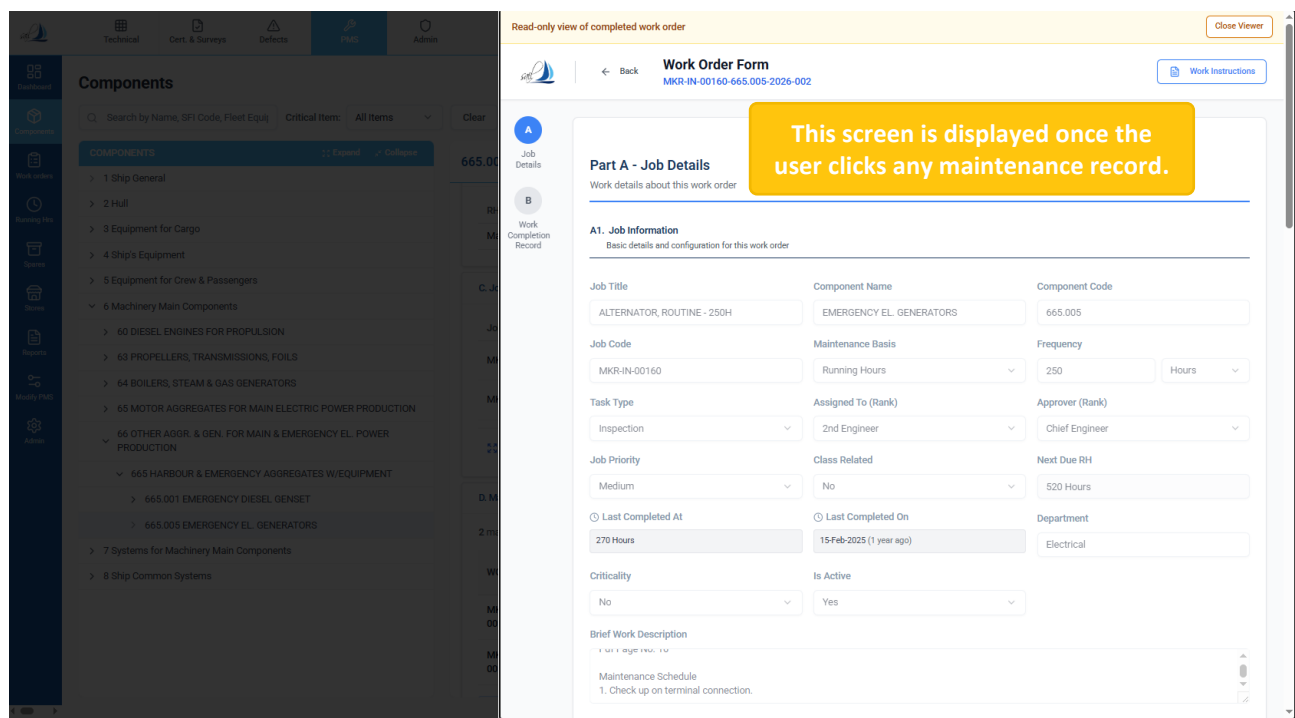

Figure 21
- The screen below appears after clicking a maintenance record. (Ref Figure 21)
- The Work Order Form is displayed in read-only mode, showing detailed information about the selected completed work order. (Ref Figure 21)